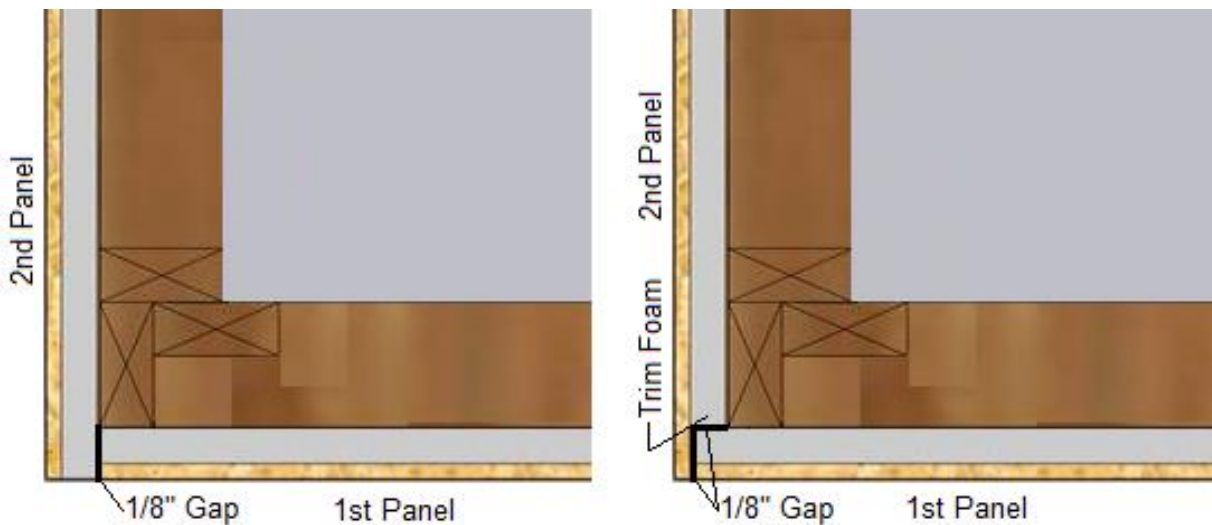

Figure 1: Installing LP NovaCore™ panels at outside corners.
- Outside corners (see Figure 1): Install the 1st panel to within an 1/8" of the edge of the corner end stud. Install the 2nd panel to overlap so that the edge of the 2nd panel is flush with the outer face of the OSB from the 1st panel. Alternatively, the foam of the 2nd panel may be trimmed, and the 1st panel shifted to cover the foam of the 2nd panel (leave an 1/8" gap).